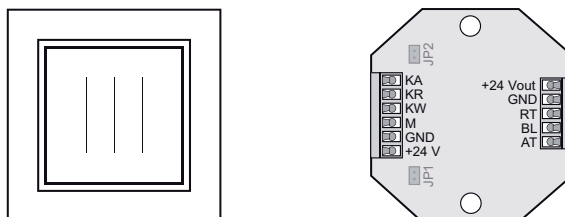

Figure 1: Pilot lamp cover with frame (left), rear view insert (right)
- Setting of a call signal as continuous signal or pulsating via jumper (Figure 1, JP1/JP2)